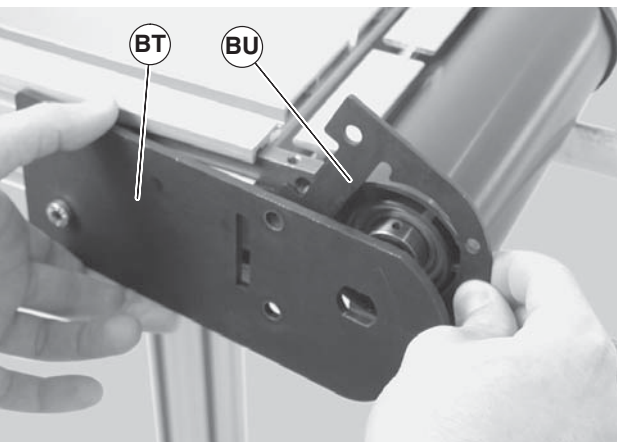

Figure 50
3. Pull back the outer headplate (Figure 50, item BT) and remove the inner spacer (BU).